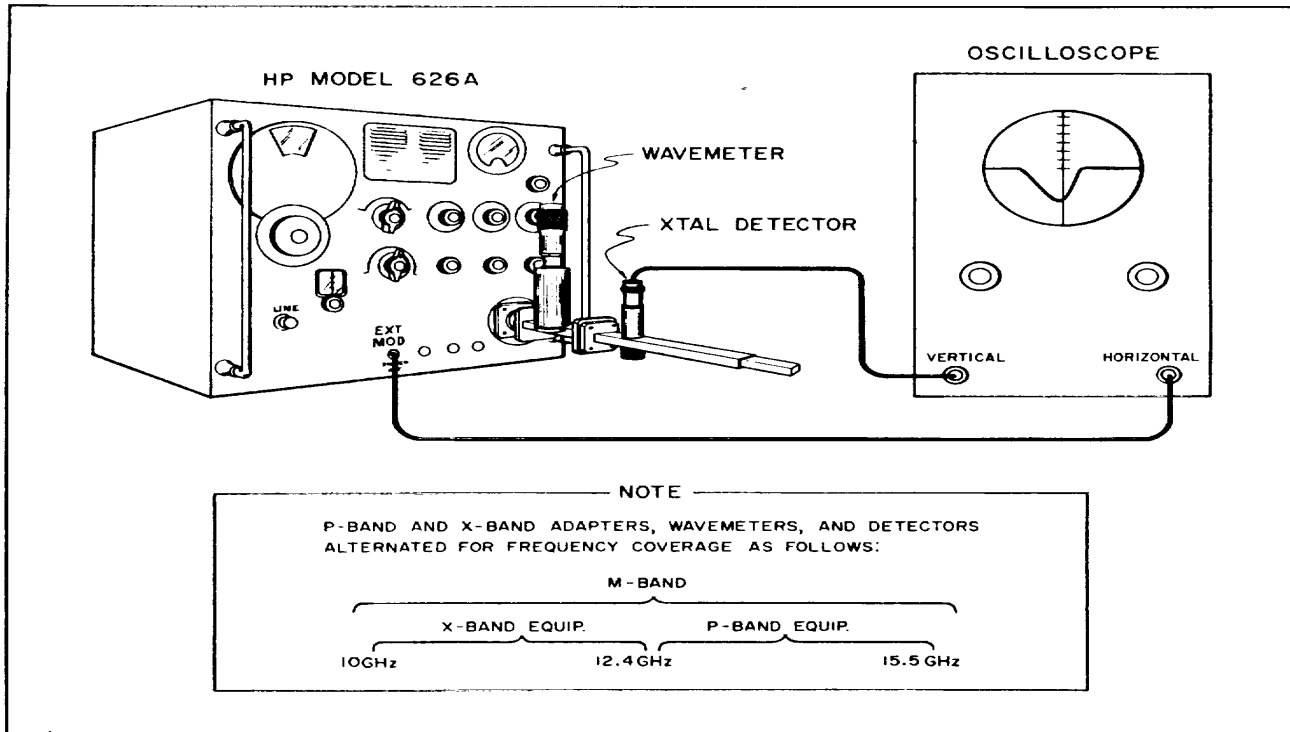
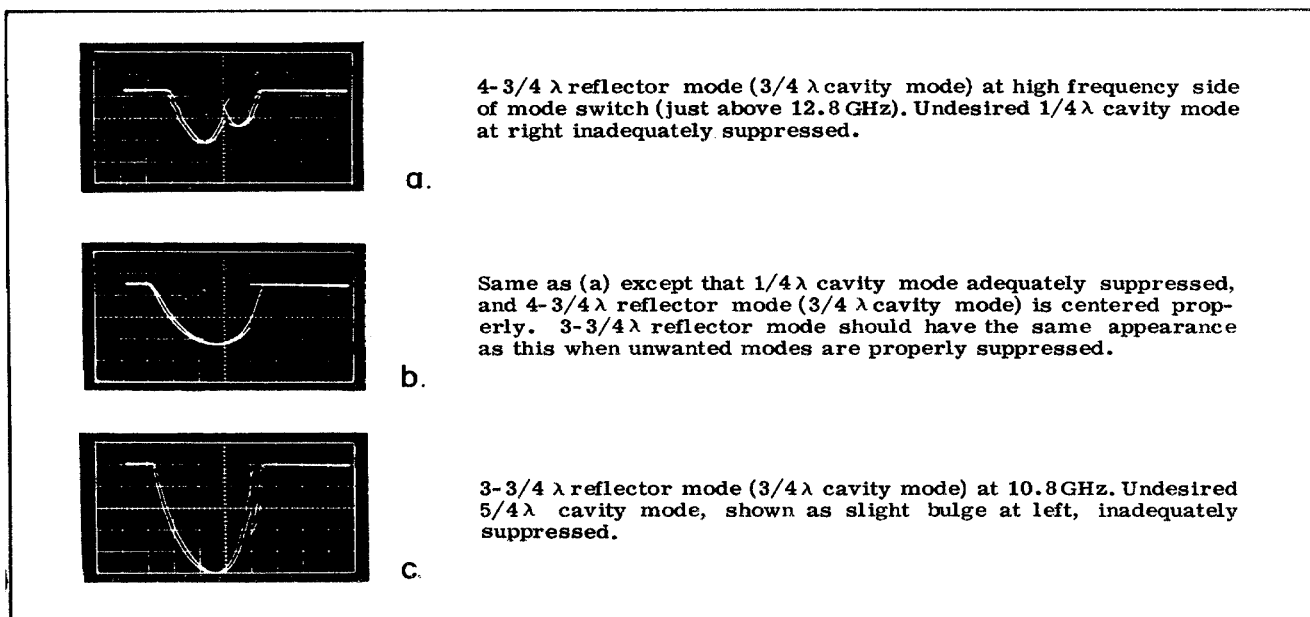

Figure 5-11. Test Setup for Observing Reflector Modes
Figure 5-12. Typical Mode Patterns
- c. Connect test setup as shown in Figure 5-11, and check for output.
The test setup shown in figure 5-11 with control settings on the signal generator described in step b permits the Model 626A to internally FM the klystron with a 60-Hz sine wave of sufficient amplitude to drive the klystron in and out of oscillation (see paragraph 3-13). When an oscilloscope is connected, its horizontal sweep circuit is driven by 60 Hz synchronized with the 60-Hz sine wave frequency modulating the reflector. Vertical trace is driven by detected output from klystron. As klystron passes in and out of oscillation a humped waveform will appear on the oscilloscope. The hump is an indication of klystron output amplitude vs reflector voltage and may be construed as the reflector mode for frequency of oscillation. Typical mode pattern oscillograms appear in Figure 5-12.
a. Connect test setup as shown in Figure 5-11.